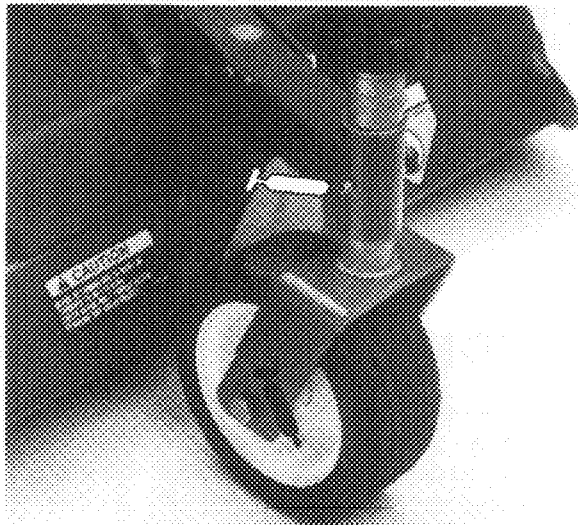
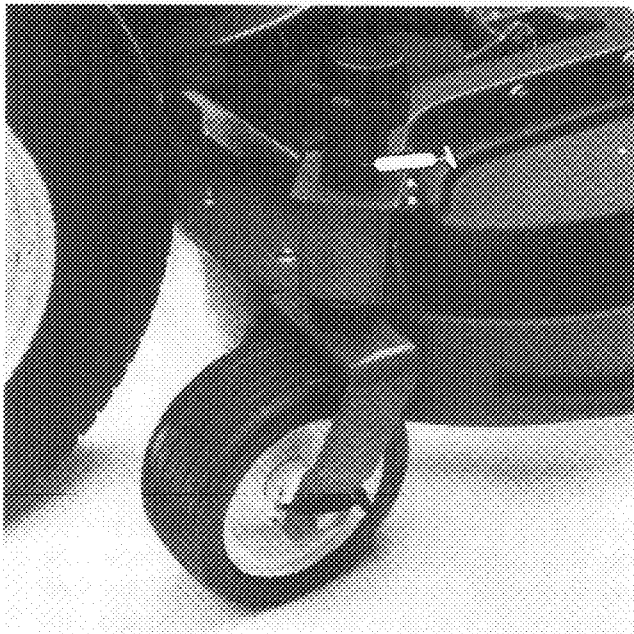
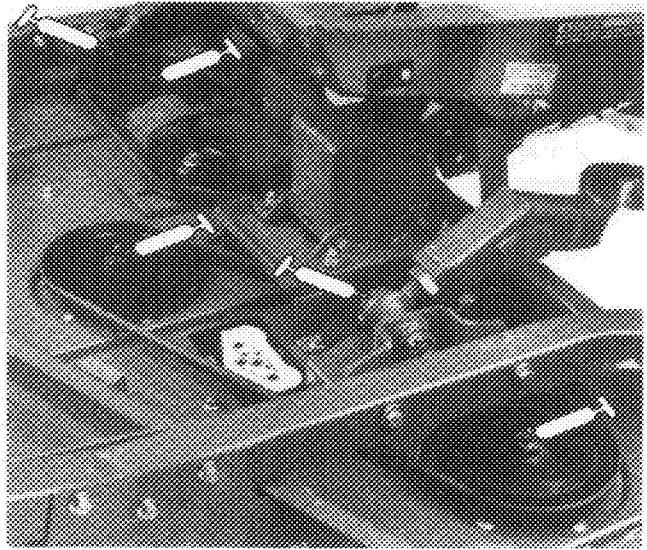

Figure 23
Figure 24
Figure 25
GREASE BEARINGS, BUSHINGS AND GEAR BOX (Fig. 23–26)
1. The cutting unit has bearings and bushings that must be lubricated, and these lubrication points are: front castor spindle bushings (Fig. 23); rear castor spindle shaft (Remove shaft from castor arm and coat hex shaft with designated grease every 50 hours (Fig. 24); castor wheel bearings (Fig. 23 & 24); blade spindle bearings (Fig. 25) and right and left push arm ball joints (Fig. 25).